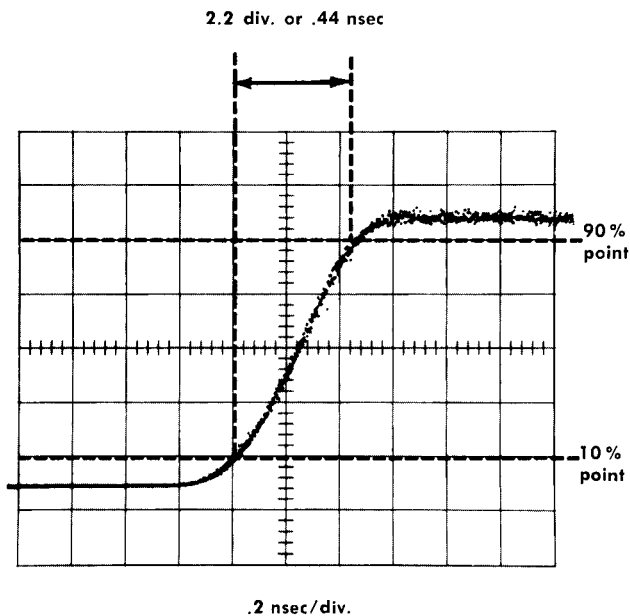

Fig. 6-6. Rising portion of a pulse with the risetime set for 0.44 nanosecond between 10% and 90% amplitude points.
6. Adjust the SNAP-OFF CURRENT\* adjustment for a risetime of 0.41 to 0.44 nsec, measured between the 10% and 90% amplitude points of the signal (see Fig. 6-6).
2. Adjust the B BRIDGE VOLTS for a risetime of 0.41 to 0.44 nsec between the 10% and 90% amplitude points of the signal (see Fig. 6-6).